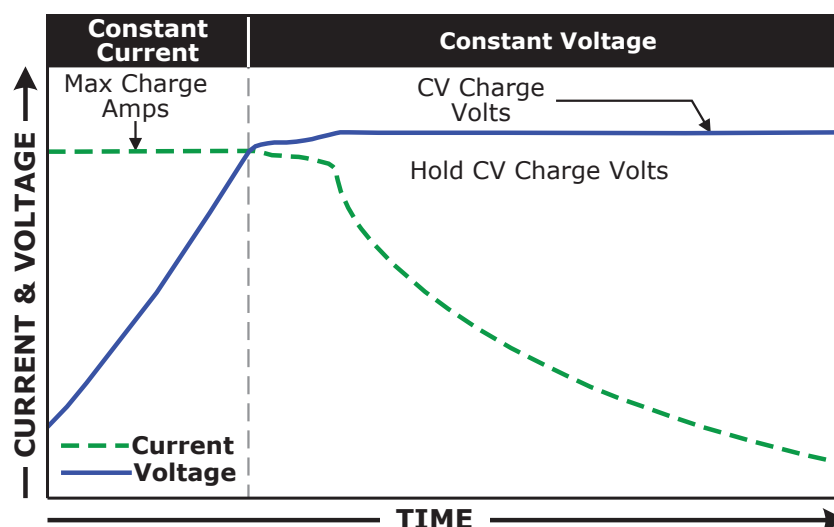

Figure 3-11, Hold CV Chg VDC Charge Stages (INV/CHG)
* **Hold CV Chg VDC** – This setting holds the battery voltage at the *CV Charge Volts* setting. This is for a system that requires a constant charge voltage to be present at all times (see Figure 3-11).